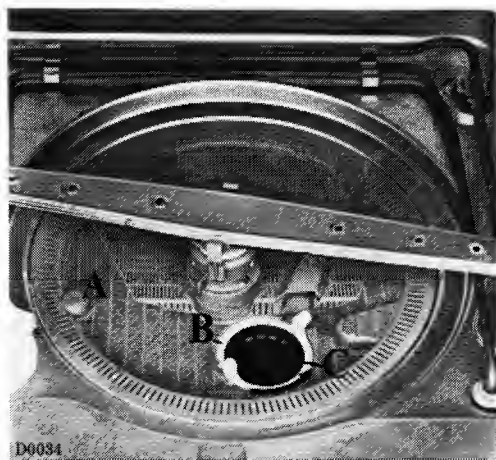

Fig. 18
The filter assembly consists of a large circular fine-mesh filter (A) and two small cone shaped filters (B-C), fitting one within the other, both being housed in the large filter (fig. 18).
These two concentric filters can be removed by slightly turning the outer filter B anticlockwise until it disengages from its seat (fig. 18).